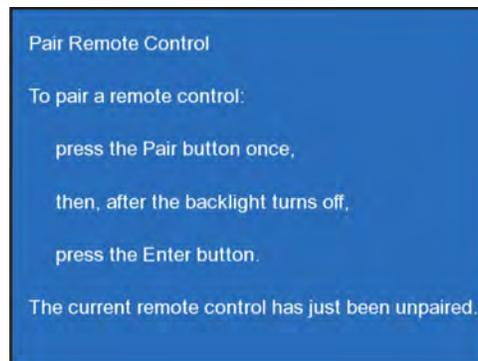

Figure 3-2 Pair Remote Control
1. Press and hold the **Power** button on the ECU for approximately five seconds until the screen shown in **Figure 3-2** appears.